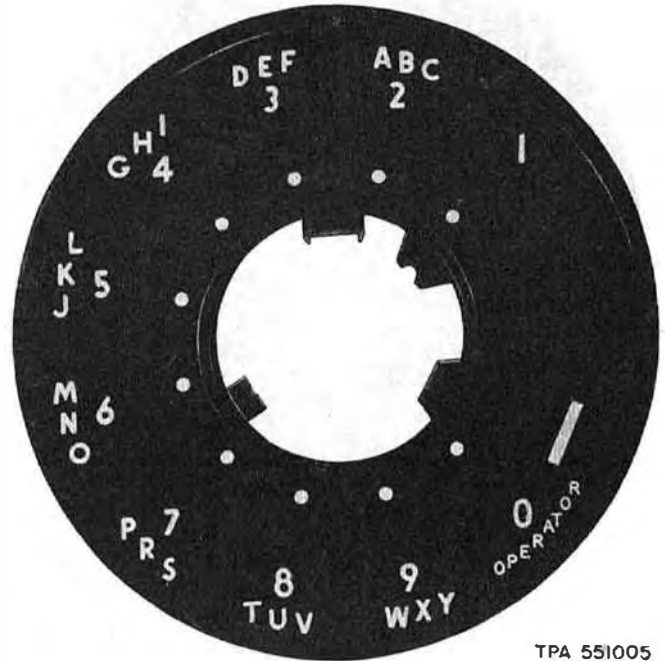

Fig. 3.1—Universal Dial Number Plate,
(2.1) Current production dial number plate requires no modification to be used with either the early version or current version of the 9-type dial (Fig. 3.1 and 3.2).
(3.1) Current production dial number plate requires no modification to be used with either the early version or current version of the 7-type dial (Fig. 3.1 and 3.3).
- (a) Fig. 3.1 added